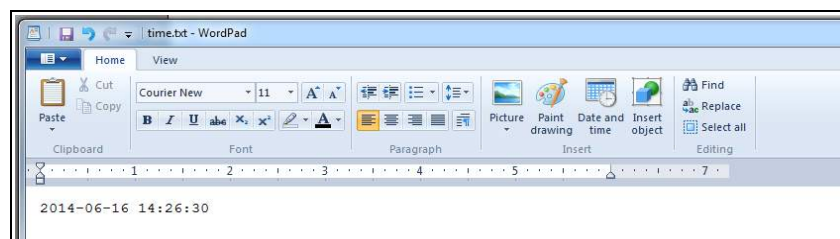

Figure 10: Example Time Entry in time.txt File
- Step 2: Enter on the first line the current date and time as “yyyy-MM-dd HH:mm:ss” in 24-hr format. Figure 10 provides an example time.txt file that will initialize the RTC to 2:26:30 pm June 16, 2014.